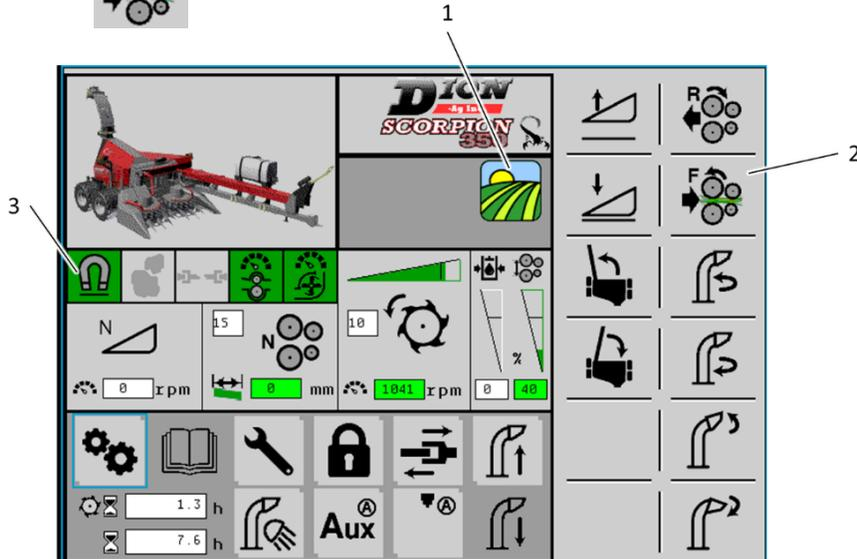

Figure 84 System initialized
4. Once the harvester has been cleared, it will fall into FIELD mode (item 1, FIGURE 84) and is ready to operate.
5. The FORWARD softkey  (item 2) is then enabled and the metal detector is initialized (item 3).